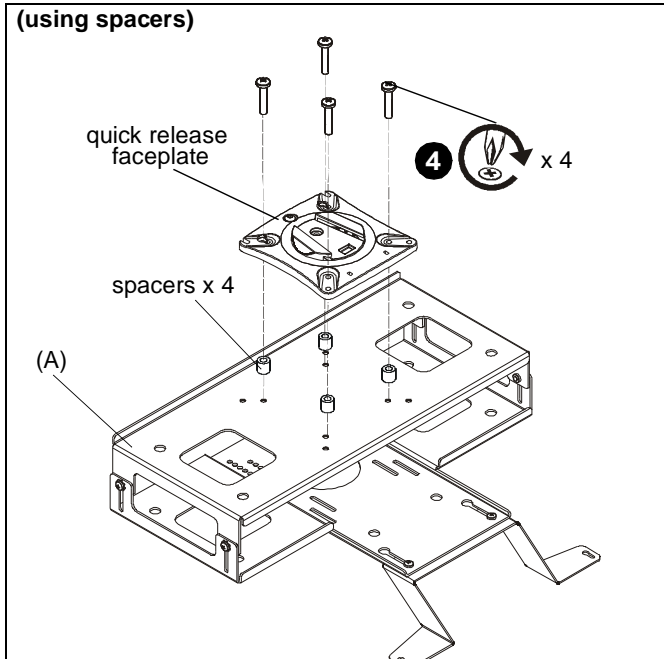

Figure 5
**NOTE:** If additional space is desired between faceplate and interface bracket, use M4x14mm screws and M10 spacers (from K1W120 mount). (See Figure 5)